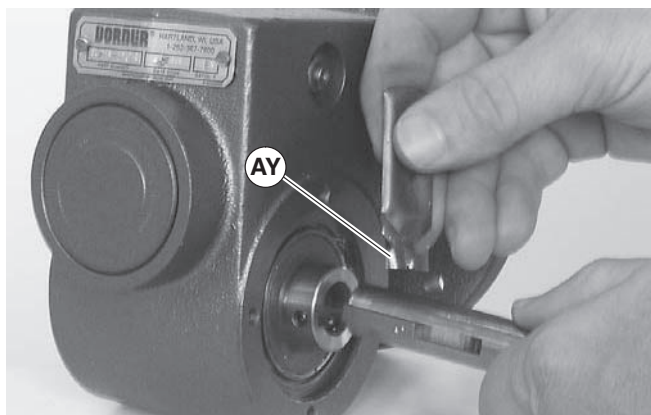

Figure 30
12. Apply grease (Figure 30, item AY) to shaft.